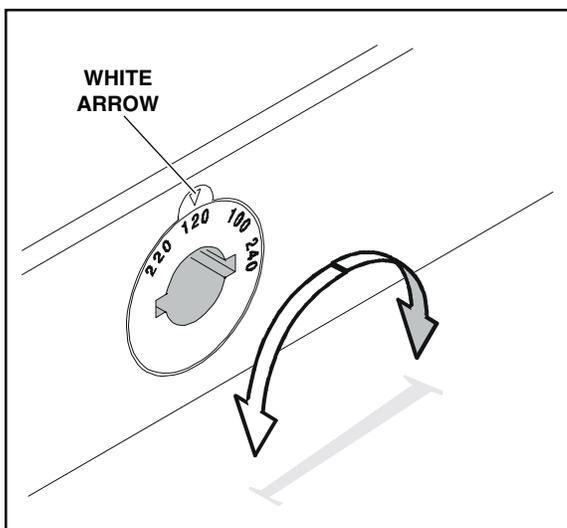

Figure 2-12. Setting the Voltage Select Switch
3. Use the edge of a coin to turn the voltage select switch as needed to position the desired AC voltage number under the white arrow, as shown in figure 2-12.